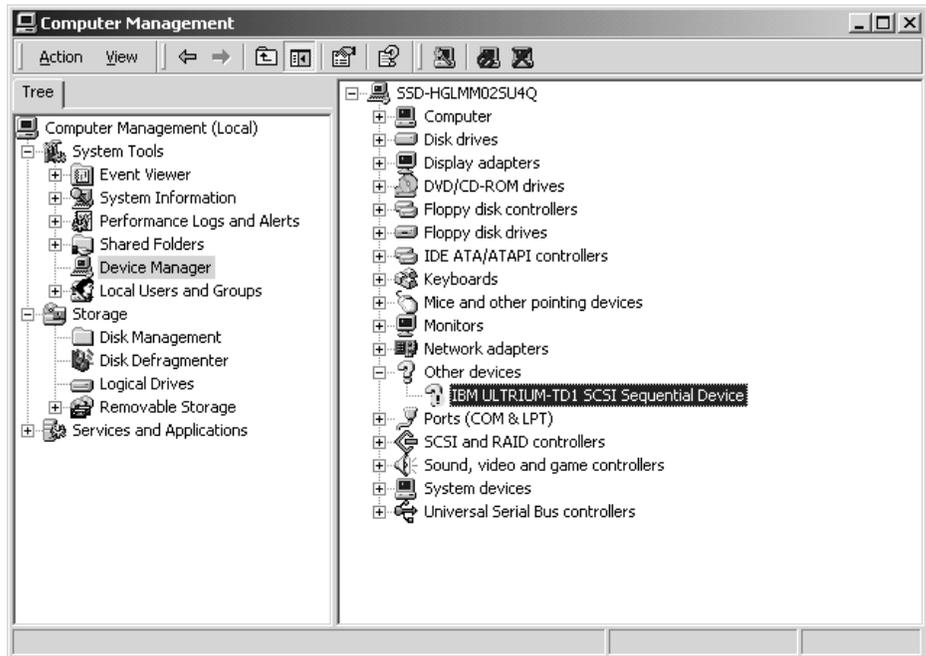

Figure 25. Computer Management Menu
7. If the Ultrium devices were powered-on and attached to your computer before you installed the Ultrium device driver, you may see them listed as unknown devices. They will be marked by a question mark in the rightmost Computer Management window that follows. See Figure 25.